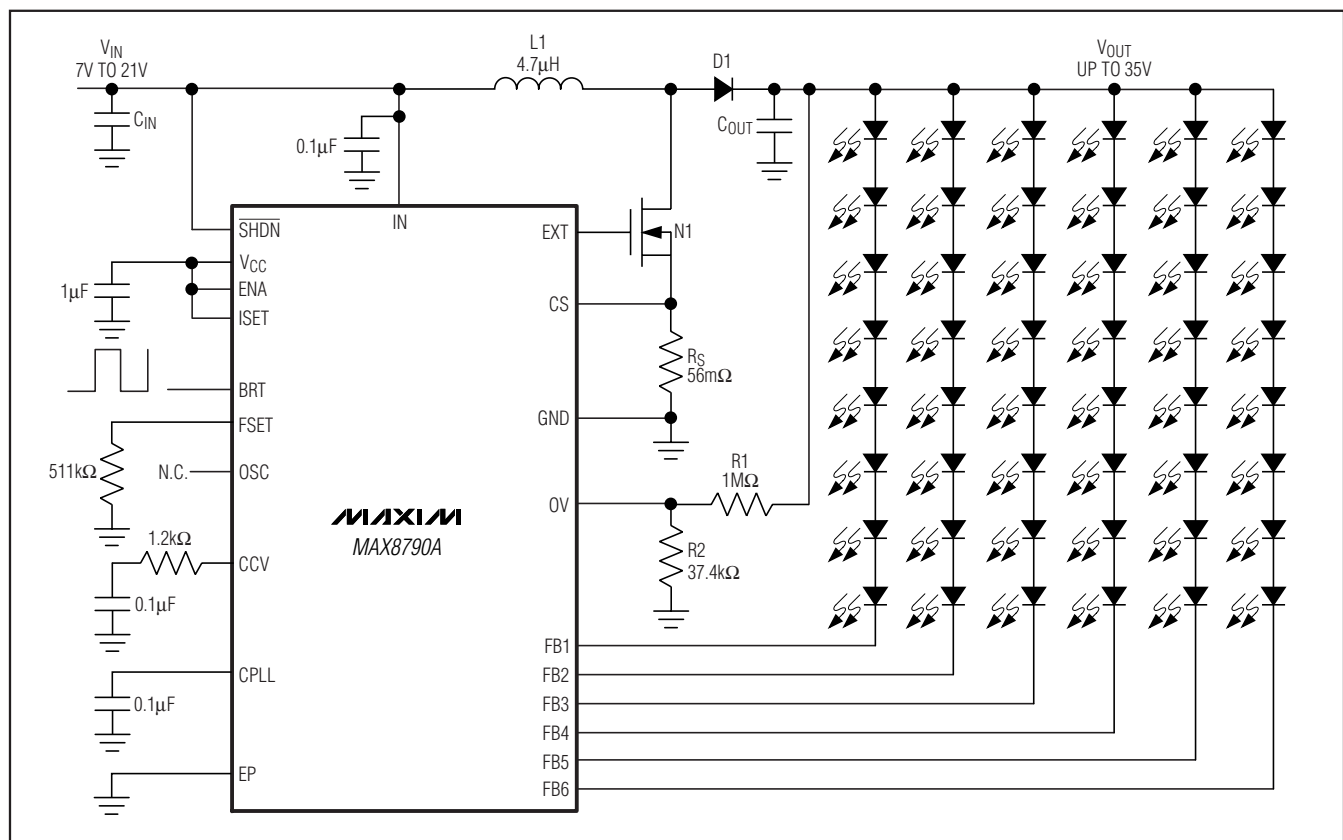

Figure 1. Typical Operating Circuit
To protect the step-up converter when the load is open, or the output voltage becomes excessive for any reason, the MAX8790A features a dedicated overvoltage feedback input (OV). The OV pin is connected to the center tap of a resistive voltage-divider from the high-voltage output (see Figure 1). When the MAX8790A is powered up, if none of the LED strings on FB1–FB6 are connected to the step-up converter output, the step-up converter regulates the output voltage to  $V_{\text{OUT}} = 1.23\text{V}(1 + R1 / R2)$ . When  $V_{\text{OV}}$  exceeds 1.23V, a comparator turns off N1. The step-up converter switch is reenabled after the output voltage drops below the protection threshold.